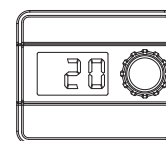

Fig. 47
7.3.1.3 - After the successful ignition the heater starts running naturally in about 5 minutes. The settings couldn't be adjusted until completing the startup process. The screen displays the ambient temperature (See Fig. 47).